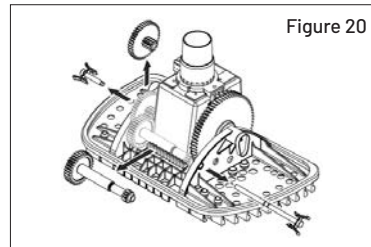

Figure 20
3. Squeeze and pull the Sprocket Clips to release the Drive Shaft Assembly and Center Sprocket, (see Figure 20).